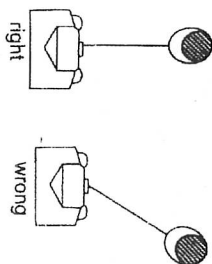

Figure 2
5. **AVOID CONTINUOUS PULLS FROM EXTREME ANGLES** as this will cause the wire rope to pile up on one end of the drum (Figure 2) This can jam the wire rope in the winch, causing damage to the rope or the winch.